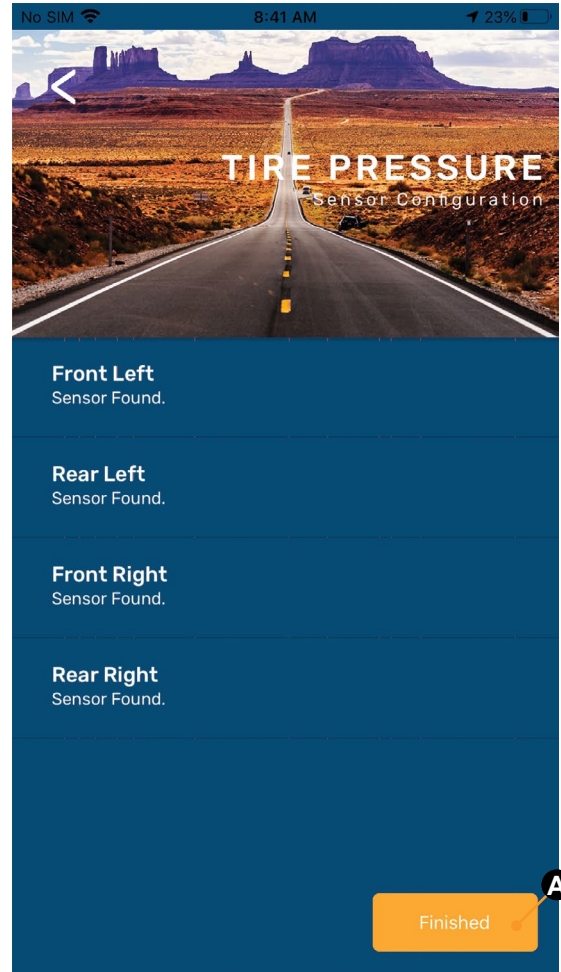

Fig.15
3. Repeat steps 2B, 2C and 2D until all sensors are learned (Fig.15).